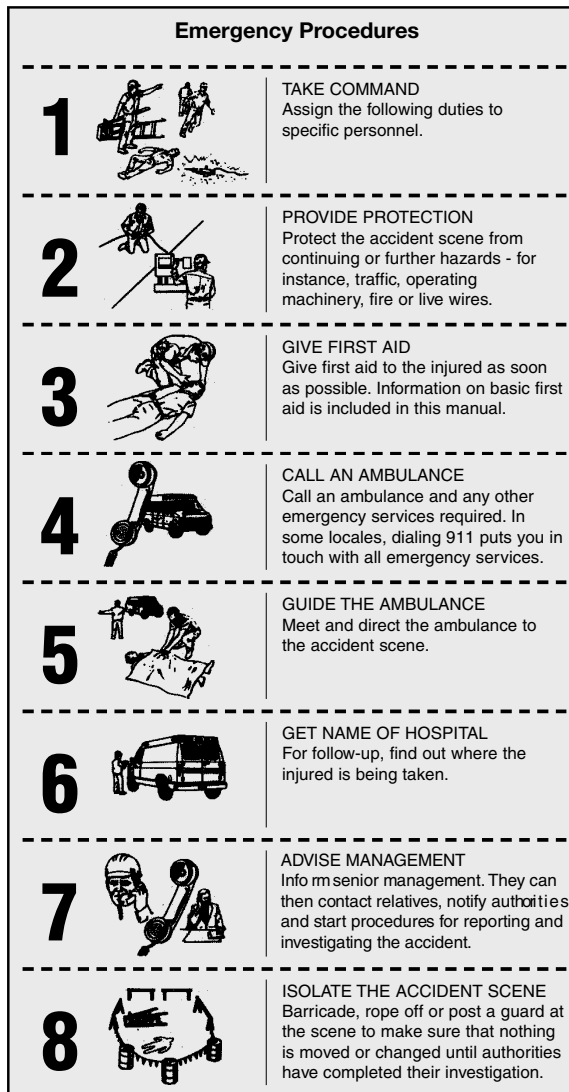

Figure 1
- procedures in the event of an emergency (Figure 1)